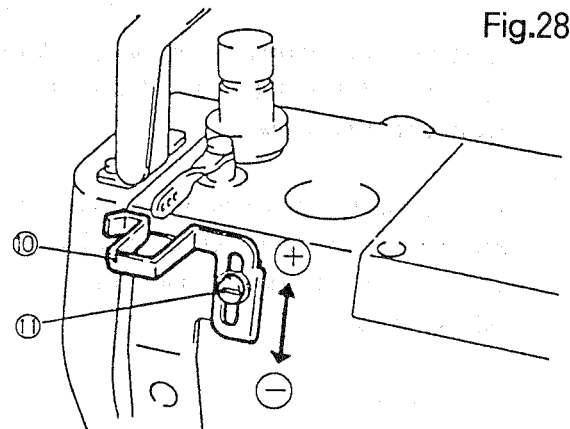

Fig.28
3) Needle thread guard (Fig. 28)